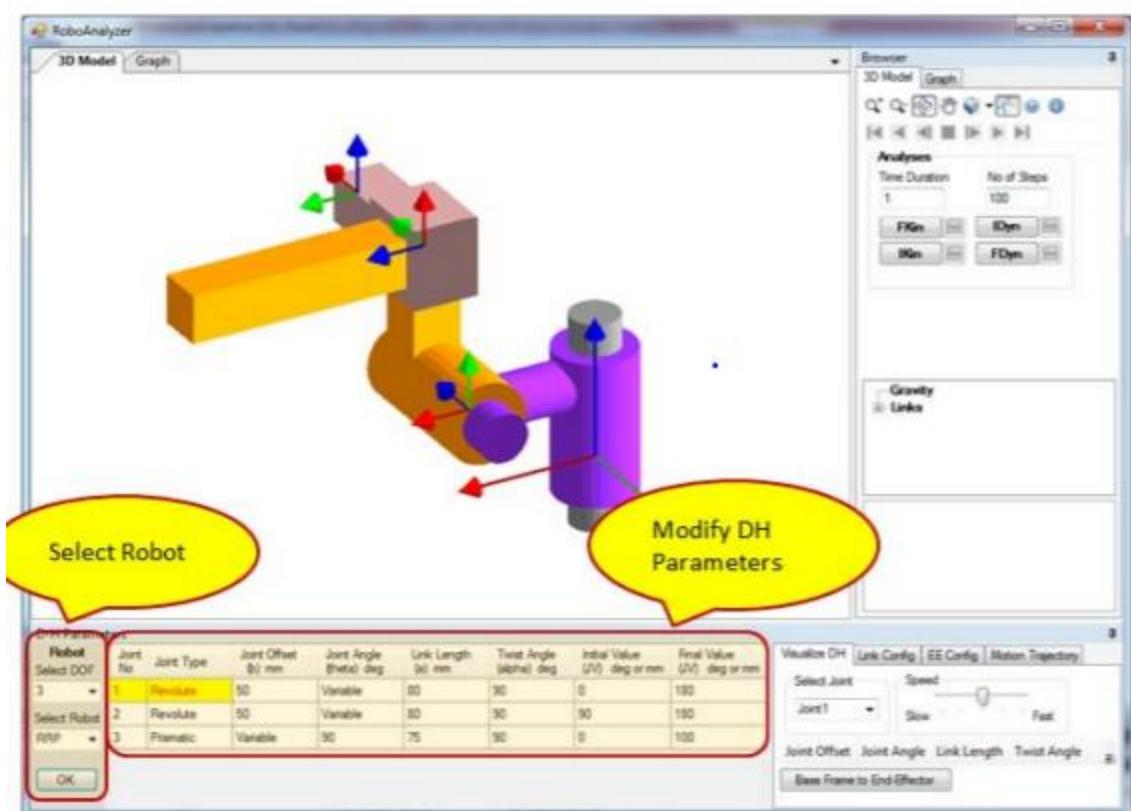

Figure 1: Select Robot Model and Redefine DH Parameters
Double click on RoboAnalyzer4.exe starts RoboAnalyzer. By default, it shows a robot model (2-R). Users can select a robot from the options given at the left bottom corner of the application as shown in Figure 1. After selecting a robot model, users can modify the Denavit-Hartenberg (DH) parameters shown in the tabular form and the robot model updates automatically. A few industrial robots are also listed, when selected shows a 3D CAD model of the robot (Figure).